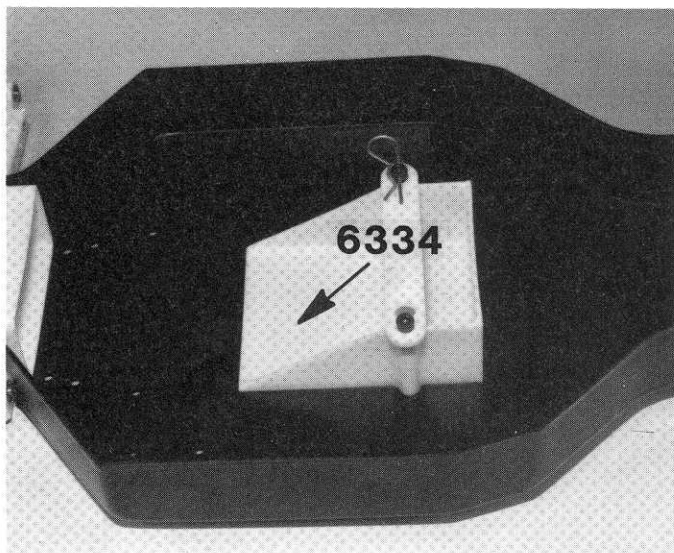

Fig. 121
□ **Fig. 121** Install the #6334 battery cup with two buttonhead screws through the bottom of the chassis. Install the battery strap with two 4/40 screws and clip, as shown.